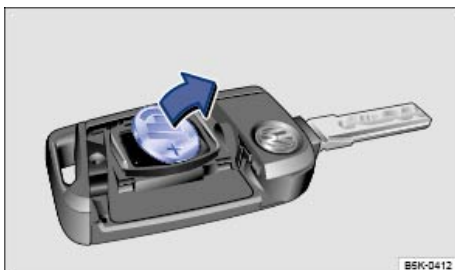

Fig. 22 Remote control vehicle key: Remove old battery.
- Use a thin object to pry the battery out of the battery compartment ⇒ fig. 22.